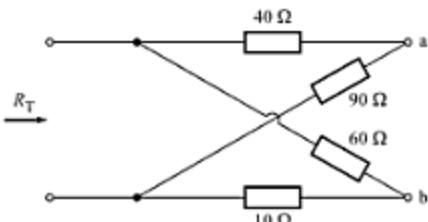

Fig. A-89
- A-51. In the circuit shown in Fig. A-89, find the total resistance R_T with the terminals a and b (a) open-circuited, and (b) short-circuited.